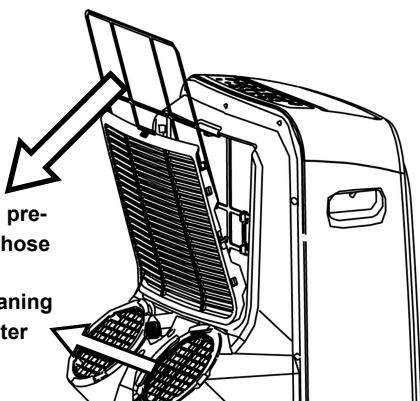

Fig. 7b
- Switch off the air conditioner and remove the intake hose filter, Silvershield pre-filter and 3M filter from the unit (Fig. 7a and Fig. 7b)